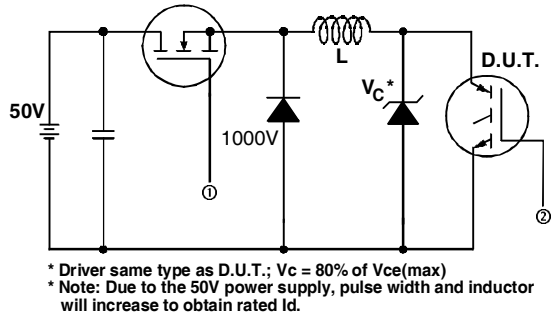

Fig. 13a - Clamped Inductive Load Test Circuit
- ② $V_{CC} = 80\%(V_{CES})$, $V_{GE} = 20V$, $L = 10\mu H$, $R_G = 100\Omega$, (See fig. 13a)
- ③ Repetitive rating; pulse width limited by maximum junction temperature.
- ④ Pulse width $\leq 80\mu s$; duty factor $\leq 0.1\%$.
- ⑤ Pulse width $5.0\mu s$, single shot.